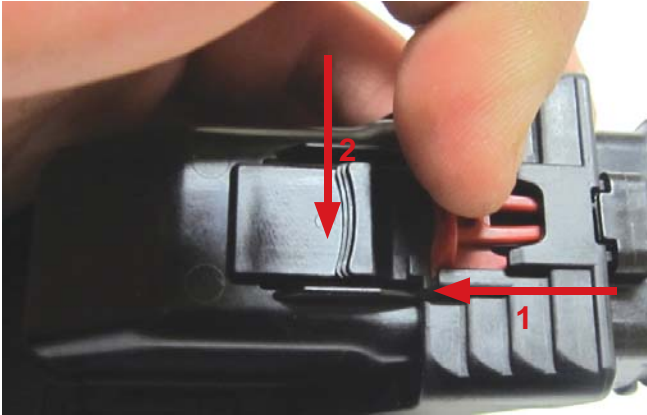

Figure 1
1. To un-mate the harness connector from the controller, push the CPA (Connector Position Assurance) away from the wire bundle. Depress the primary latch on the top of the harness connector so the lever arm releases. **Reference Figure 1.**